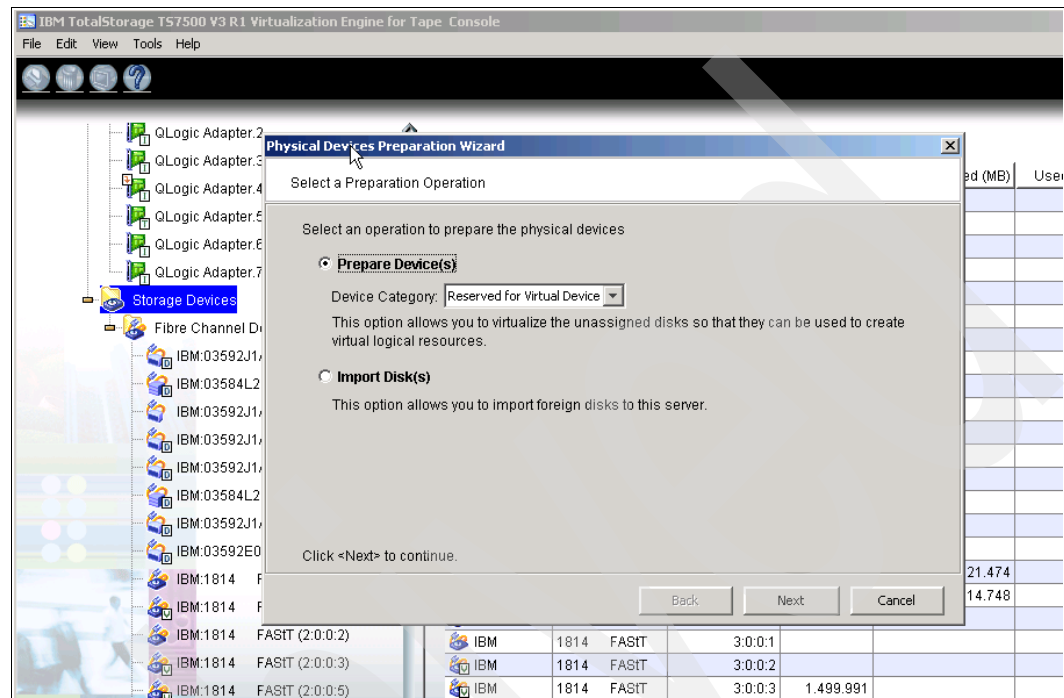

Figure 13-13 Prepare devices
- After scanning for new devices, you will be able to see the new devices. Now it is necessary to prepare the new devices for usage. In the VE console expand **Storage Devices** so that Fibre Channel Devices is visible. Right-click the this topic and select **Prepare Devices**, as shown in Figure 13-13.